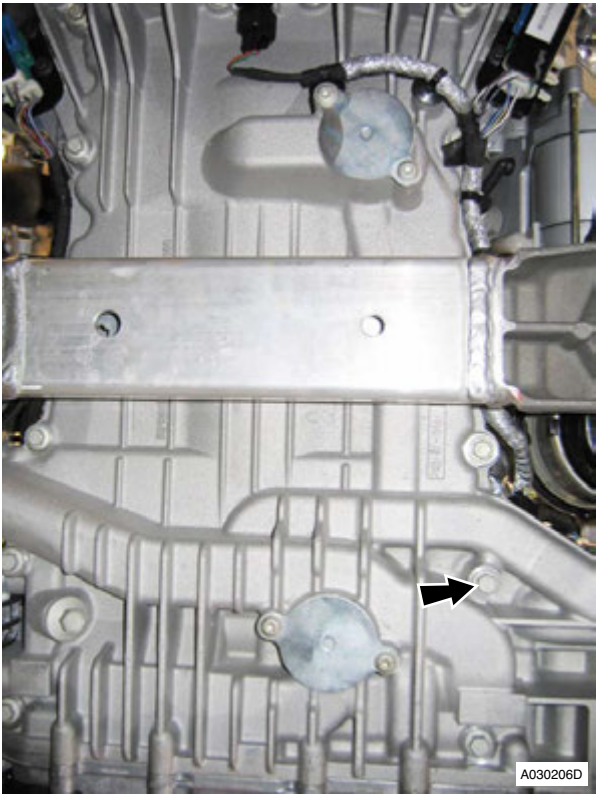

Figure 9
13. Remove bolts (x16) that attach the sump to engine bedplate (refer to Figure 9).